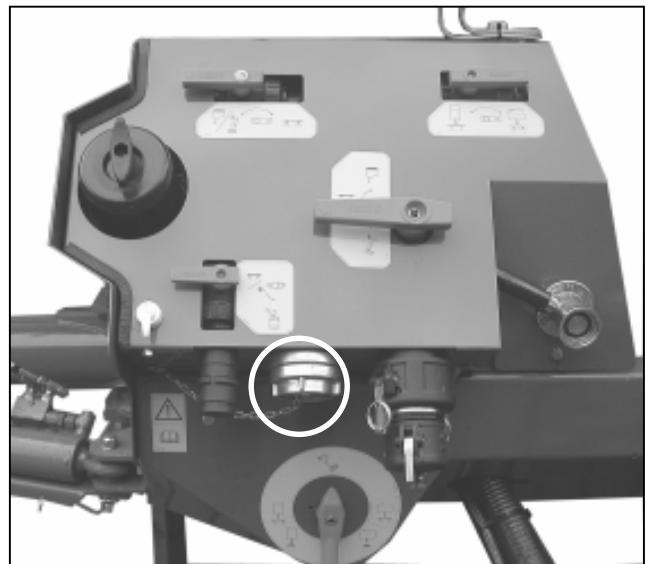

Fig. 10.8
The spray agent tank or the flushing water tank can be filled with water from the public water supply network with the aid of the filling port (Fig. 10.8).
- Create the connection with the water supply network via the C-coupling (Fig. 10.8).